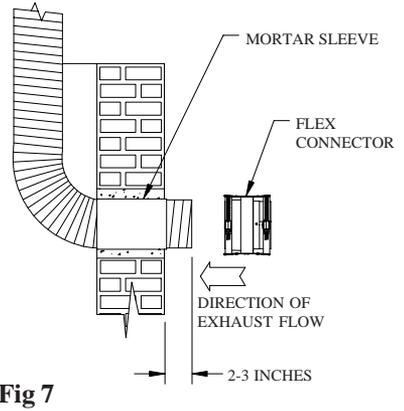

Fig 7
Step 7. The Flex Liner should extend at least 2 inches beyond the Mortar Sleeve. If you are using rigid connector pipe to connect between the Flex Liner and the Appliance, you will need a Flex Connector. Be sure the flow arrow on the Flex Connector is in the same direction of the exhaust flow (**Figure 7**). Fit the Flex Liner into the Flex Connector and tighten the fast connect band. Slide the other end of the Flex Connector into the connector pipe and tighten with the fast connect band.